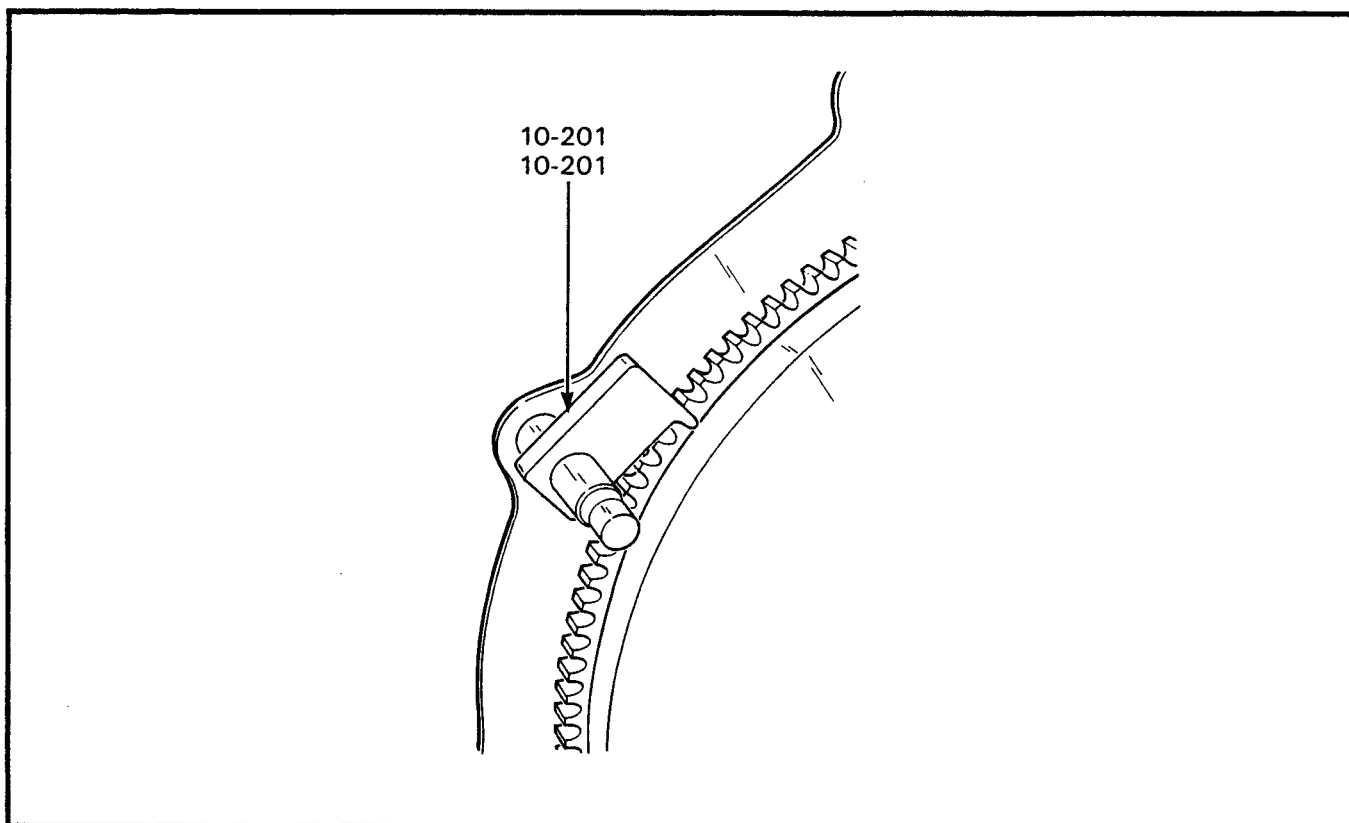

Figure 2-6-31 Tool 10-201 Installed on Flywheel
- c. Install tool 10-201 to prevent the flywheel from turning, see Figure 2-6-31, and remove the six cap screws.
- c. Installer l'outil 10-201 pour empêcher le volant de tourner, voir figure 2-6-31, et enlever les six boulons.